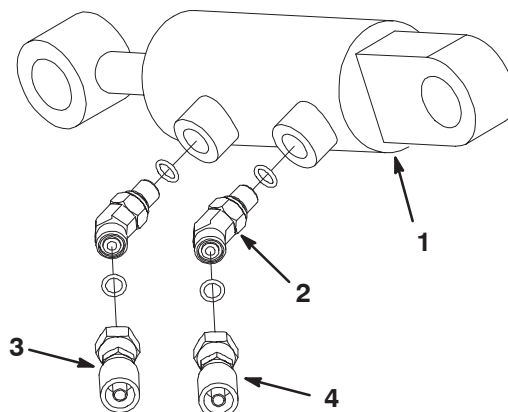
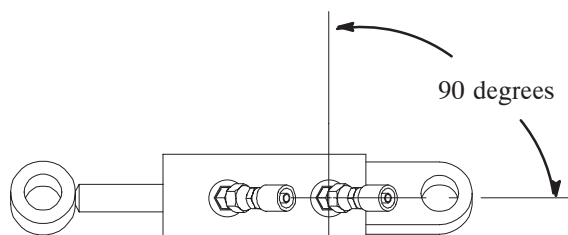

Figure 2
Figure 3
3. Thread a 45 degree hydraulic fitting into each port of the hydraulic cylinder (Fig. 2). Make sure the O-rings are in place when installing the fittings. Orientate the fittings as shown in figure 3.
4. Install the straight fitting end of each hydraulic hose to the fittings on the hydraulic cylinder (Fig. 2). The shorter hose (16.5 inches long) is connected to the fitting closest to the rod end.